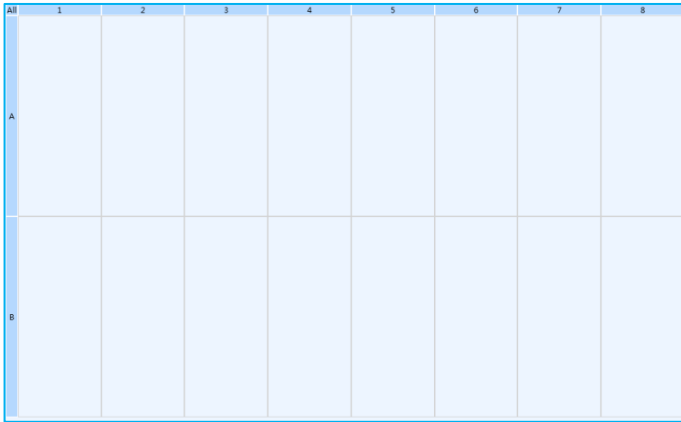

Figure E-7.1 Sample Setting Interface - Sample Setting Area
1. **Sample Setting Area:** After entering the sample setting interface, users shall first choose a sample well in the sample setting area, as shown in figure E-7.1. The well distribution in sample setting area corresponds to the well distribution of the sample block in loading platform. There are 16 sample wells in total arranged in 8 columns (1-8) and 2 rows (A-B).